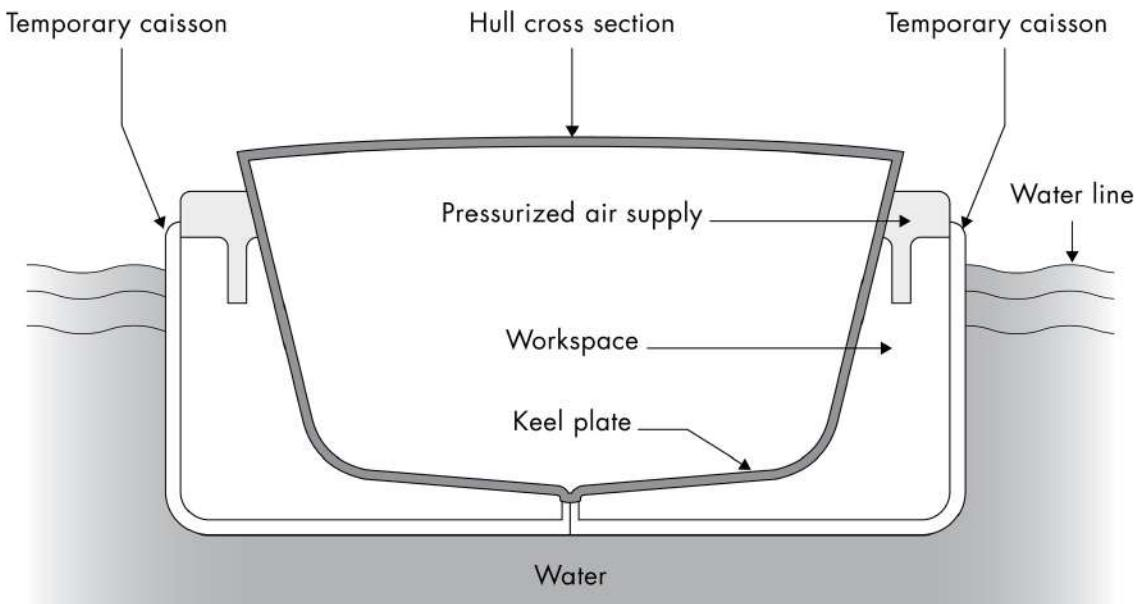

Figure 3. Watertight chambers called caissons are used in shipbuilding and repair when work must be done below the waterline.
7. For very large cruise ships, sometimes the building docks are not large enough for the entire ship. It is therefore built in sections in separate docks. The sections are then floated out and joined. To do this, they are carefully aligned, and caissons (watertight chambers) are temporarily added so that the areas below the waterline can be welded (see figure 3).
8. Once the design is selected, up to 100 layers of the cloth are stretched out on a large table for cutting. Patterns used to be cut from heavy paper or cardboard and then marked on the fabric for a worker to cut with a textile cutting machine. Modern factories use programmed high-speed cutting machines (see figure 3). Up to 80 different sizes are possible from one pattern. Excluding rivets, buttons, and zippers, a pair of denim jeans contains about 10 to 15 different pieces, including the pockets, leg panels, waistband, and belt loops.
Figure 3. The denim cloth is cut into pattern pieces from stacks 100 layers thick. Once the pieces are cut, they are sewn into complete pairs of denim jeans. Sewing is done in assembly-line fashion by workers using sewing machines.